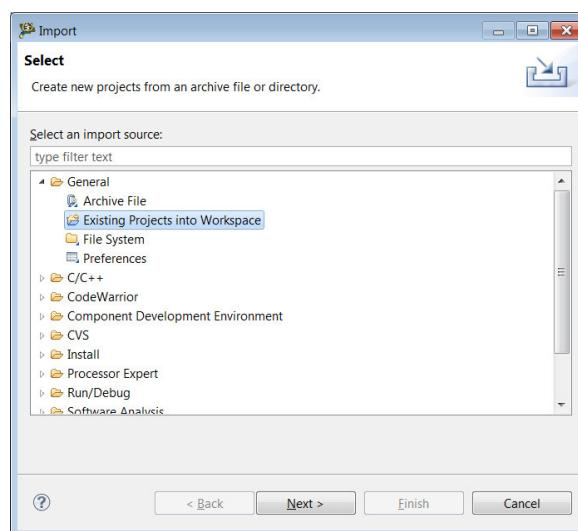

Figure 10. Import dialog window
4. Import the project using File-> Import option, see Figure 10 select **General->Existing Projects into Workspace**